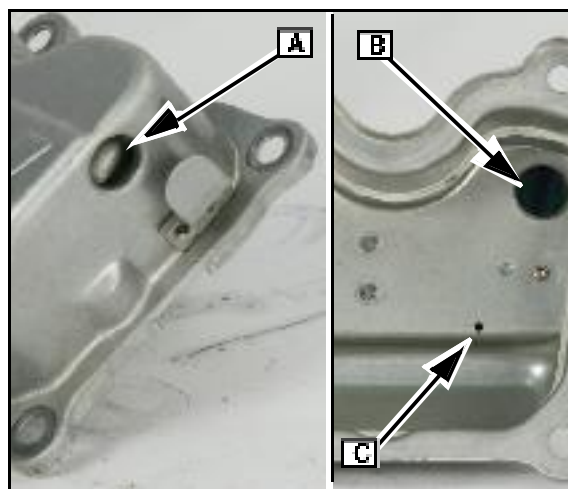

Fig. 23
The breather components are built into the valve cover for the models listed. They consist of (A) a port for the breather hose, (B) a reed and valve assembly inside the cover and (C) Fig. 23) a relief hole to balance cylinder pressures in case the breather assembly sticks or binds.